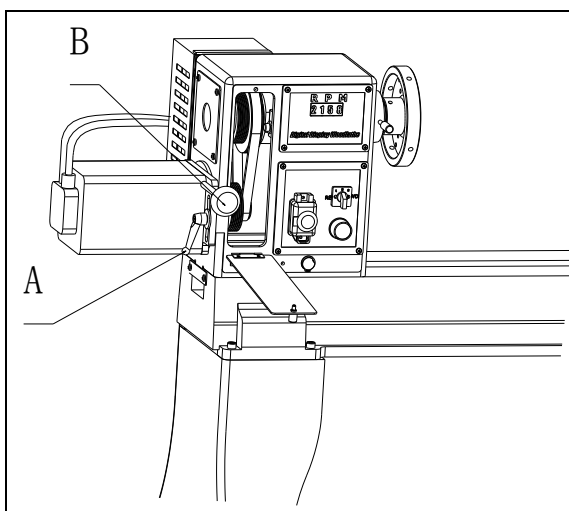

Fig. 9
2. Loosen the locking handle (A, Fig. 9).
3. Lift up on the tensioning handle (B, Fig. 9) to remove tension from the poly v-belt. You can now position the belt in the desired speed range. It is pictured in the low speed pulley range. Note: The "High" speed range (330-3200) provides maximum speed, where as the "Low" speed range (100-1200) will provide maximum torque.